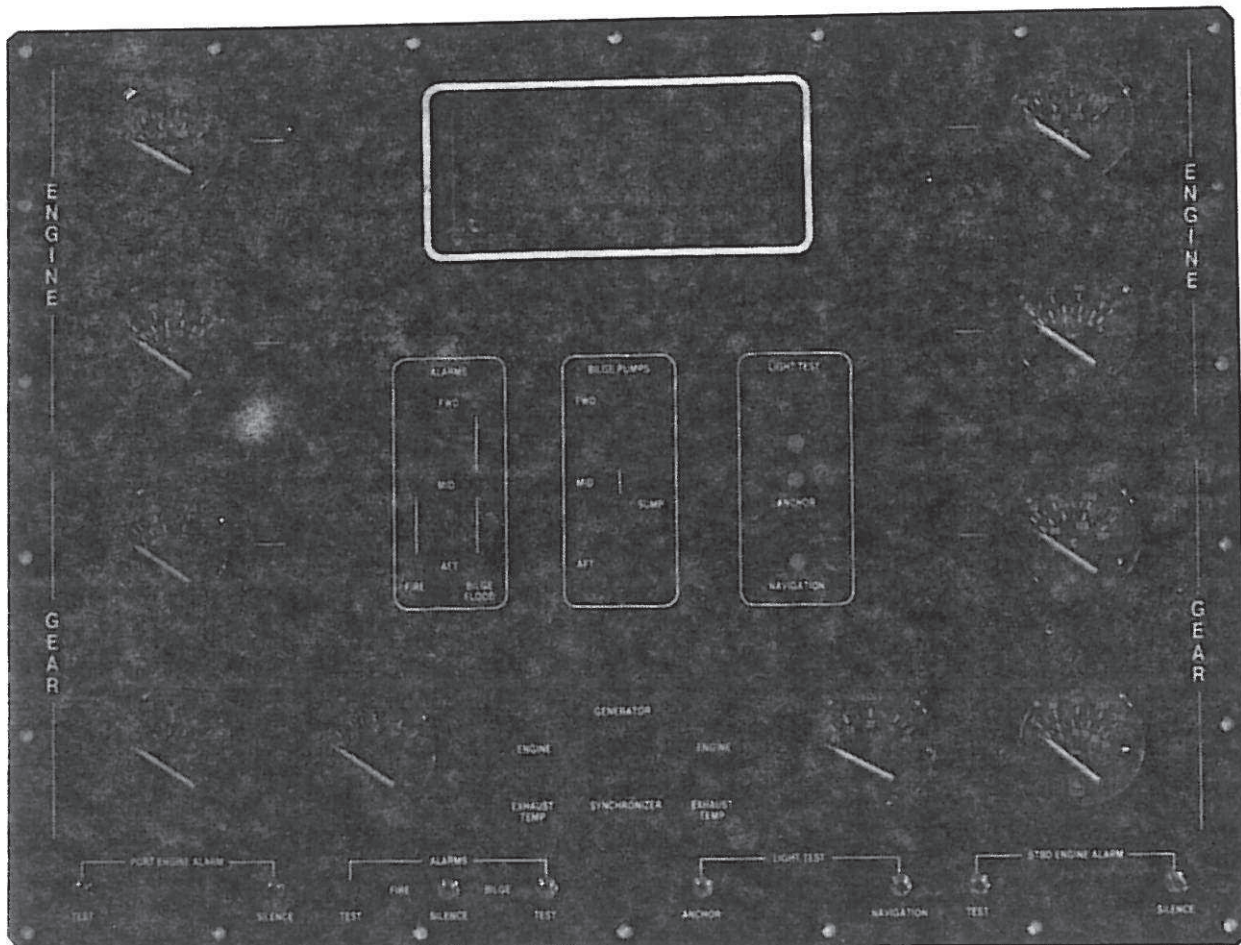

Figure 6 - Flybridge Control Station Instrument Panel
As shown in Figure 6 - The Flybridge Control Station Instrument Panel, your Bertram has two identical sets of performance gauges mounted on the instrument panel, one for the port engine and port transmission the other for the starboard engine and transmission. These gauges keep you aware of the status of each critical engine and transmission system parameter.
The two (2) engine coolant temperature gauges shown in Figure 6 each independently indicates the temperature of the coolant circulating through its respective engine in degrees Fahrenheit (100 to 250°F) and Celsius (40 to 120 °C).
As shown on Figure 6, there is one engine lubricating oil pressure gauge for each main engine. The two engine oil pressure gauges are calibrated in pounds per square inch gauge (0 to 80 psig) and millibars (0 to 5 mbar).
The engine tachometers shown in Figure 6 simultaneously display both engines' rpm. These tachometers give a readout in numerals in increments of 10 rpm. Diesel engines perform best when they are operated at relatively steady speeds. Therefore, any substantial change in either engine's rpm from a fixed power setting or a drop from your Bertram's maximum rpm may indicate a problem. You should stop and check your engines and running gear to limit any damage.